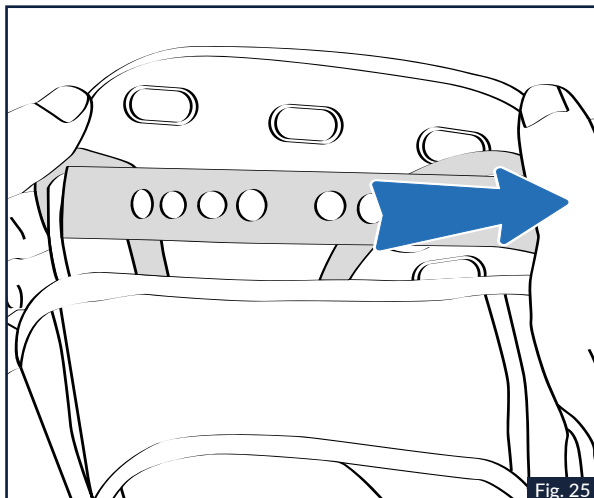

Fig. 25
1.3 Repeat the process of points 1.1 and 1.2 with the rear circular button located below the padding (Fig.25). By pulling the two adjustment snaps of the liner, the helmet is gradually positioned higher on the head.